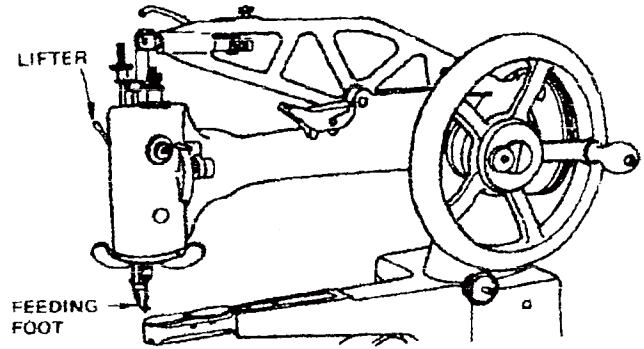

Fig. 4
To oil shuttle race, raise needle bar to its highest point and lift feeding foot shown in Fig. 4 by moving lifter upward.
1. Raise feeding foot shown in Fig. 4 by moving lifter upward.